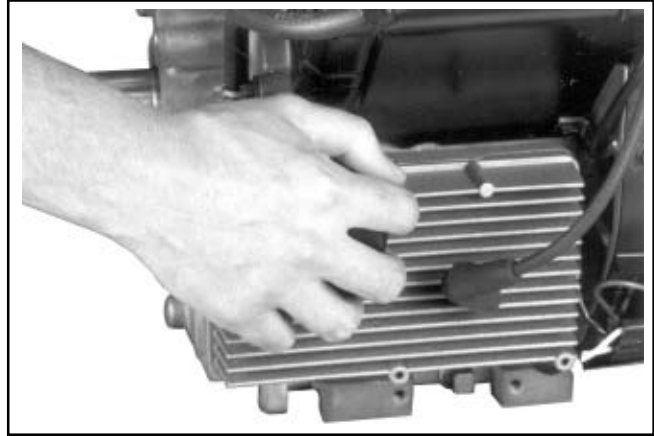

Figure 11-94. Hand Tightening Oil Filter.
3. Hand tighten the filter until the rubber gasket contacts the adapter, then tighten the filter an additional $\frac{2}{3}$ -1 turn. See Figure 11-94.